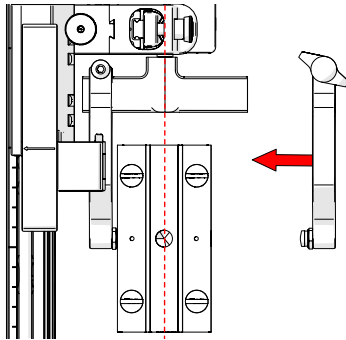

Fig. 50 - Remove outer arm
6. Align the middle of the wedge with the centre of the yoke (Fig. 50).